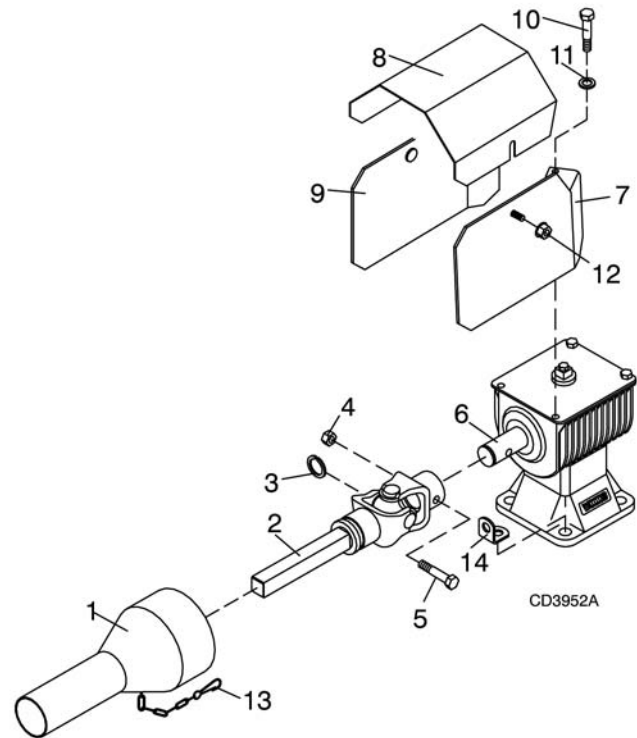

Figure 27. Rear Driveline Installation - P990
Remove drive shield (1) from the driveline. Place the yoke horizontally in a vise. Firmly pull shield backward while pushing each of the three bearing tabs down to release them. See Figure 27.